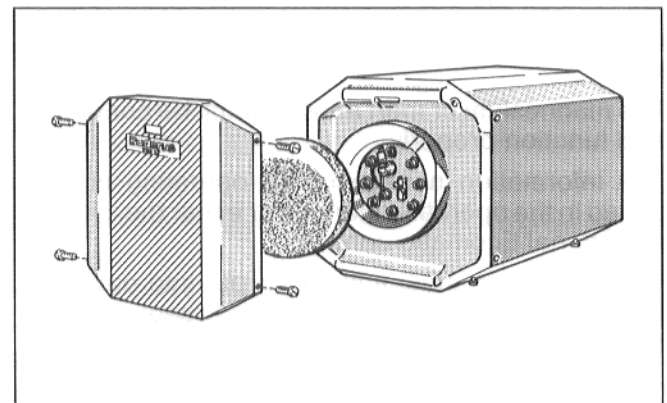

Fig. 9
- Insert insulating disk in front of the inspection port lid (Fig. 9).
- Push the front panel of the storage tank onto the tank from the front and screw tight with 2 self-tapping screws each on the left and the right in the side panel of the storage tank (Fig. 9).